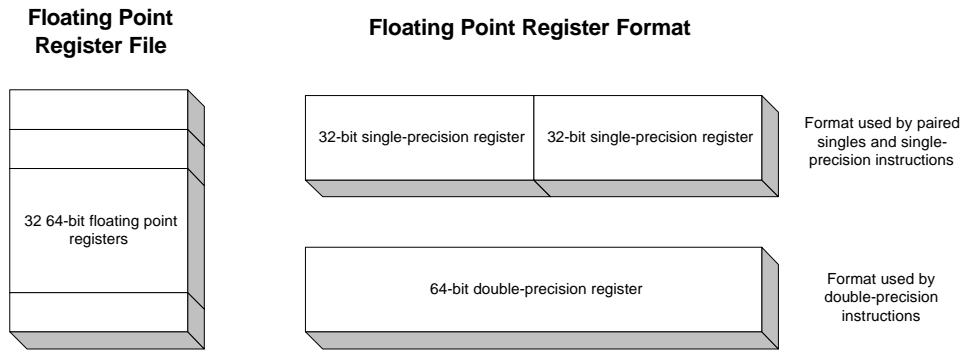

Figure 5 Paired singles register format
- Figure 5 Paired singles register format7